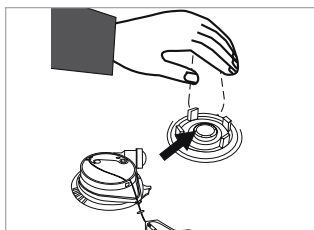
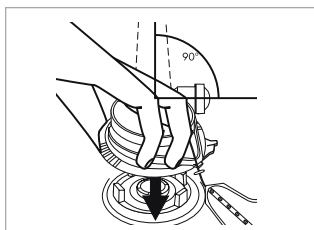

FIGURE 14 HOLD CYLINDER
FIGURE 15 REPLACE CAP
- 8) Hold the CO₂ cylinder through the fabric of the life jacket (Fig. 14). Position the replacement cap with the water inlet valve pointing to the right and press firmly onto the inflator body and sealing ring (Fig. 15).